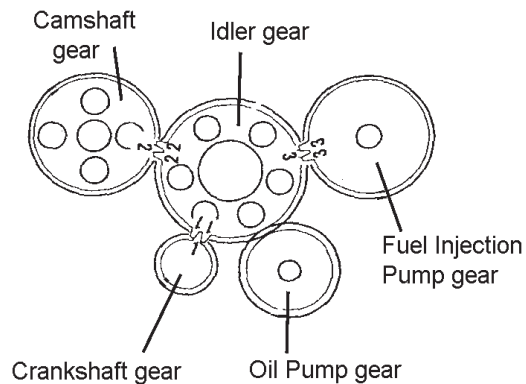

Figure 9: Timing Marks
- a. Install the fuel injection pump after having aligned its gear alignment mark with that of the idler gear alignment mark as shown in Figure 9 above. When the alignment marks of the timing gears align as in the diagram to the right, the No. 1 piston is top dead center in the compression stroke.